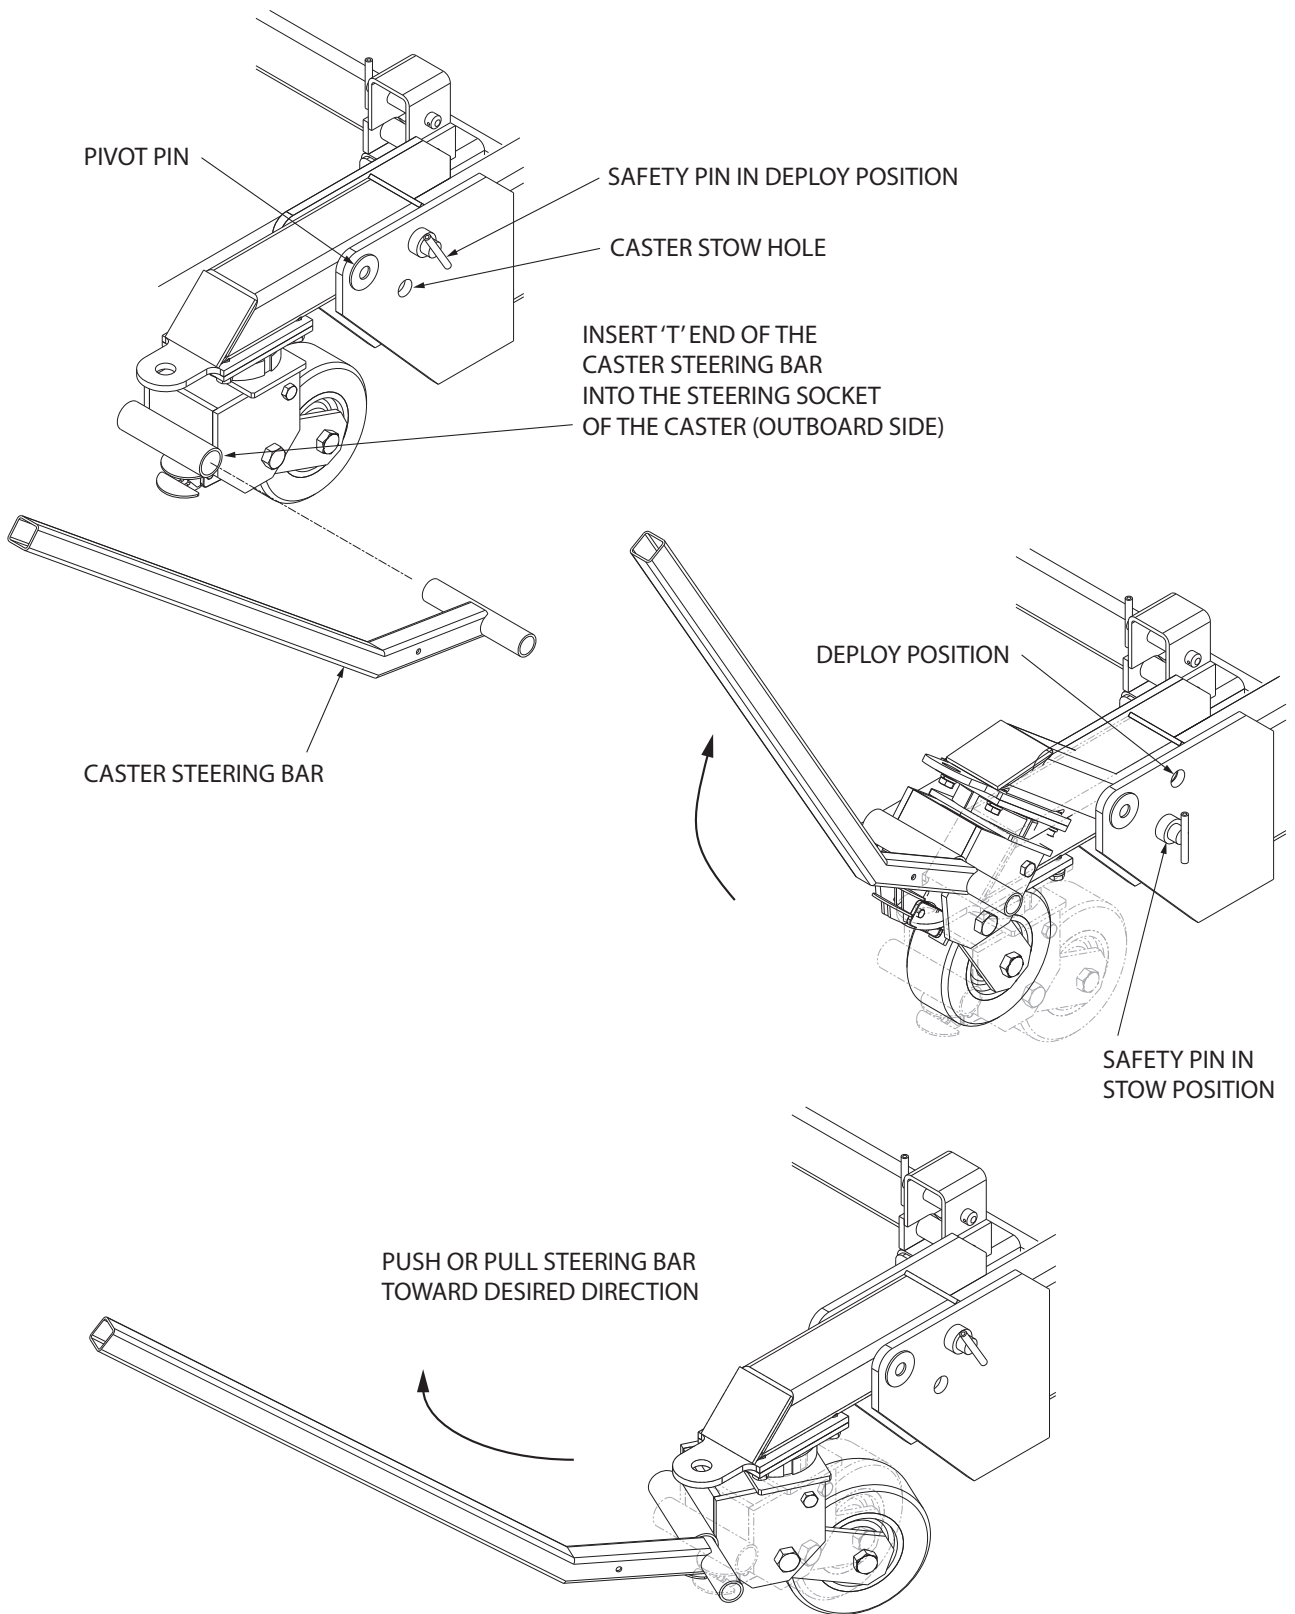

Figure 5.4-1
5.4 Caster Operations (Illustration Figure 5.4-1)